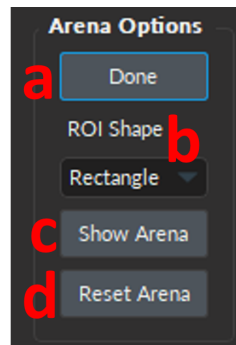

Figure 14.8: Animal Tracking window, Arena Options
- The **Draw Arena** button (Fig. 14.8, a), when selected, allows the users to draw a shape on a still frame of the video to define the part of the image that corresponds to the animal arena. This selected element will serve as the background for the moving animal. Once selected, the **Draw Arena** button becomes a **Done** button, which must be selected to save the current arena area for the algorithm.
- The **ROI shape** drop-down menu (Fig. 14.8, b) sets the geometrical shape that will be used when drawing the arena area. The user can select between: *Freehand*, *Rectangle*, *Circle* or *Square*.
- The **Show Arena** button (Fig. 14.8, c) will blackout the part of the video that isn't contained within the user-defined arena.
- The **Reset Arena** button (Fig. 14.8, d) will remove the video blackout that designates the arena in order to redraw the shape.